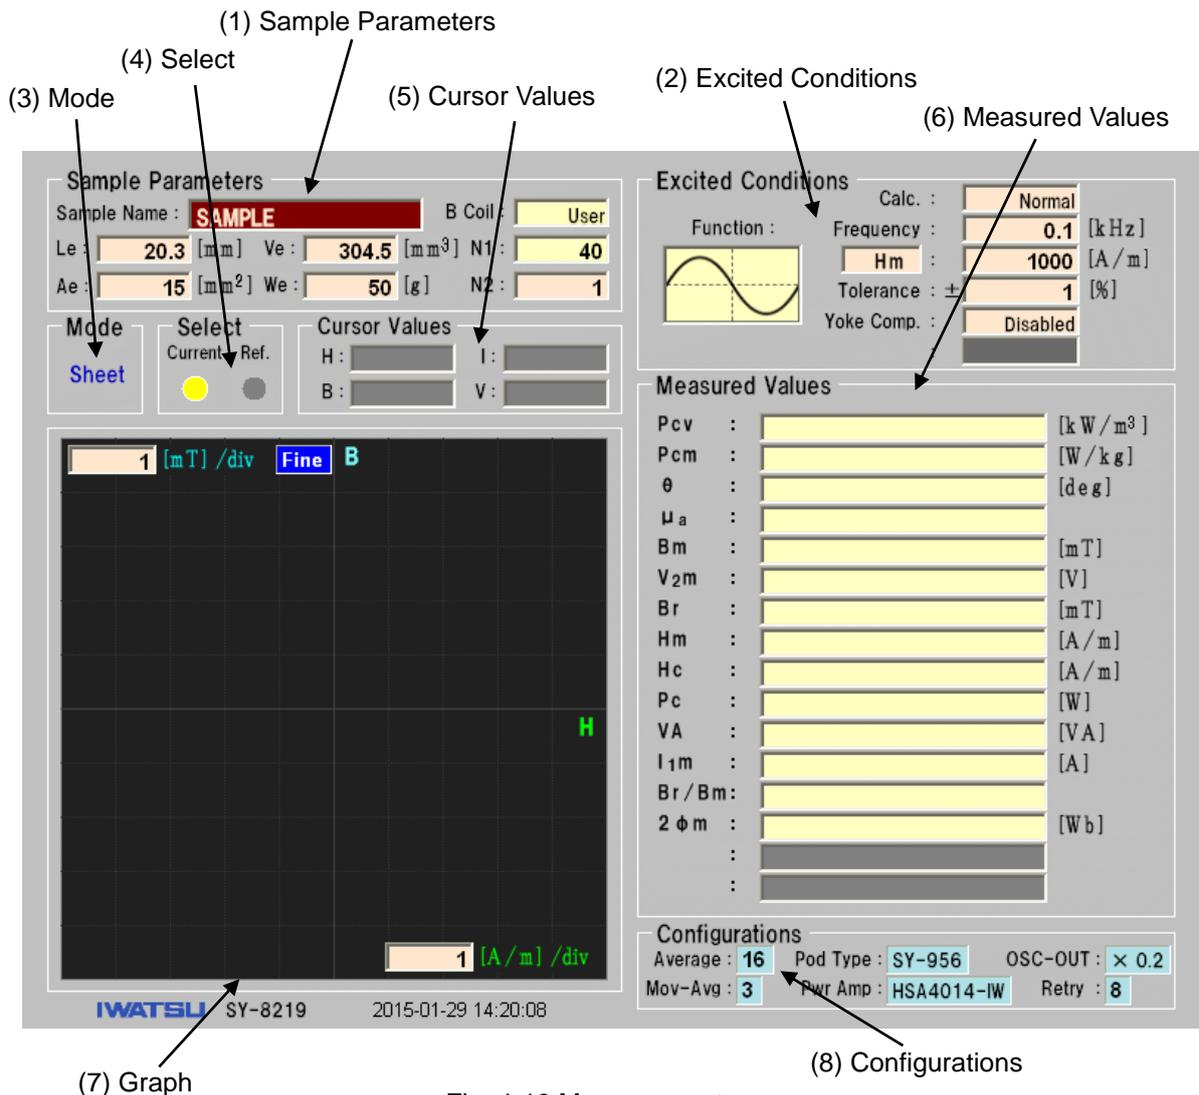

Fig. 4-18 Measurement screen
- The single sheet testing mode screen is displayed. (See Fig. 4-18)